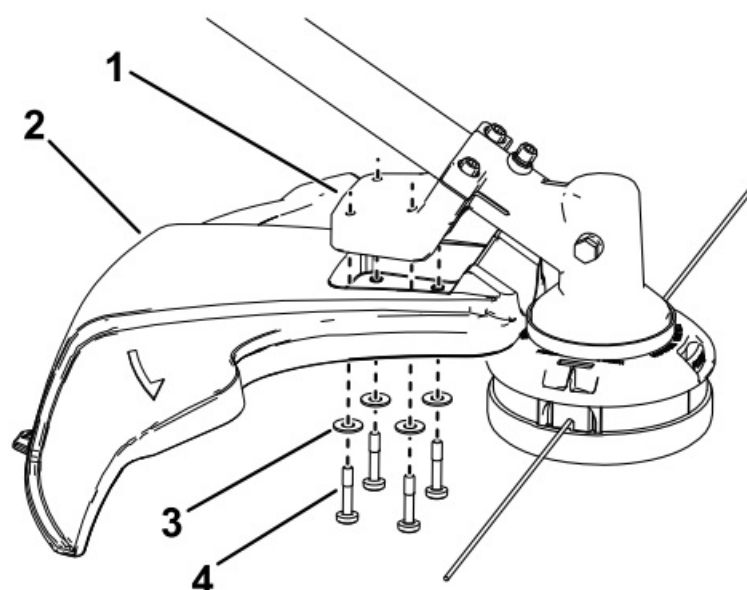

Figure 4
1. Align the trimmer guard beneath the guard mount as shown in Figure4.
2. Secure the guard to the trimmer using the 4 washers and 4 bolts as shown in Figure 4.